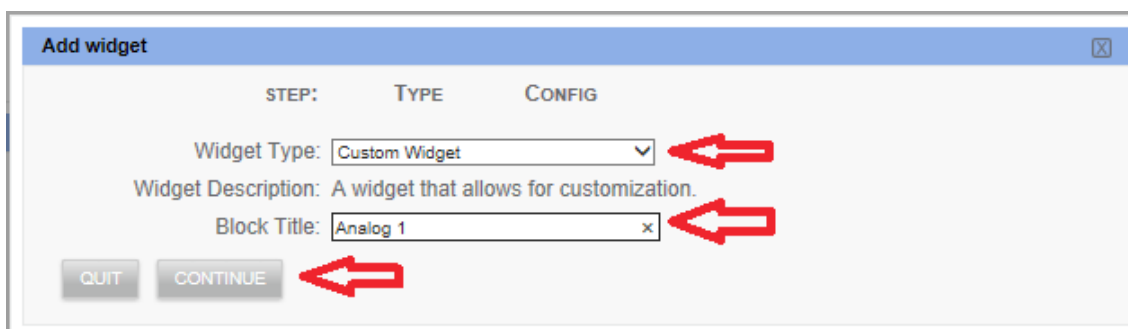

Figure 23 - Add Widget - Type
7. With a widget added to an analog value, one must be added to send an integer value to the device from the dash board page. As before, from the HOME page, click the **Add Widget** button. Refer to Figure 23. In this dialog, select the type of widget to add (Widget Type). For this application note, select the *Custom Widget*. Enter the title for the widget (Block Title). The title can be anything, but should be descriptive for the widget and data point it will represent. Click the **Continue** button. The Add Widget - Config dialog will open.